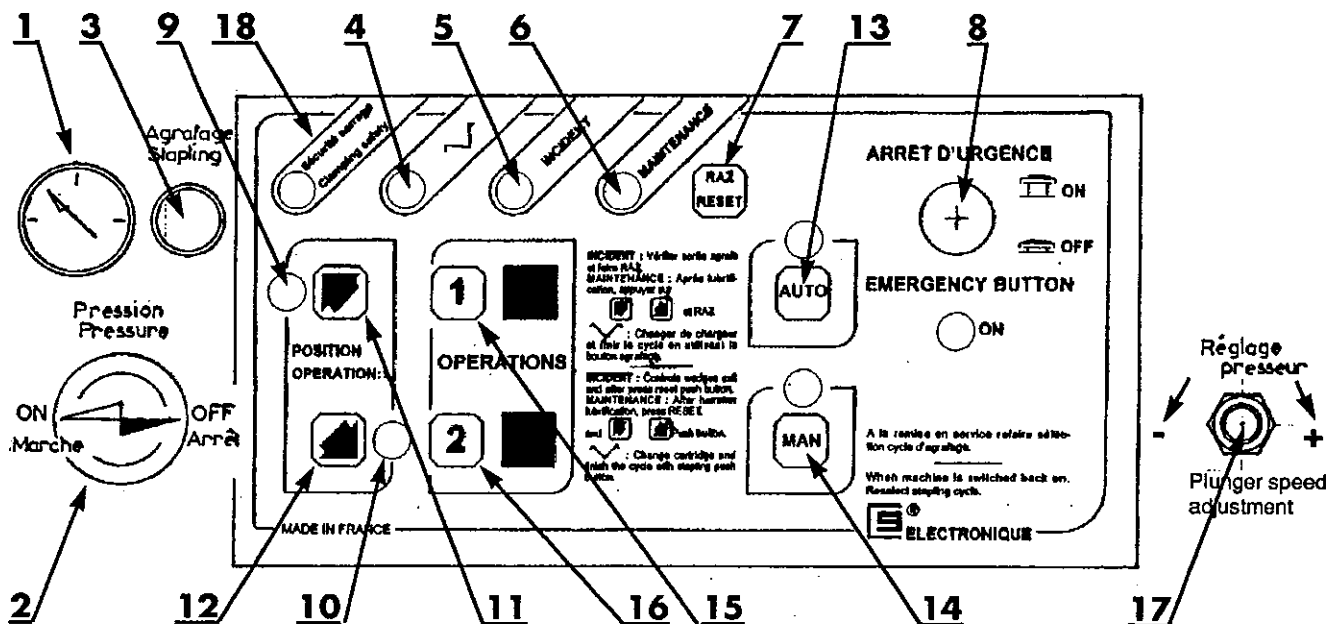

FIGURE 3
NOTE: When the cartridge is empty or if there is no cartridge, the Indicator Rep . 4 FIG 3 lights up.
The Rep. 4 indicator doesn't go out until the stapling button 3 is pressed (FIG 3).
- b) Press the stapling button once (FIG 3 - Rep. 3)